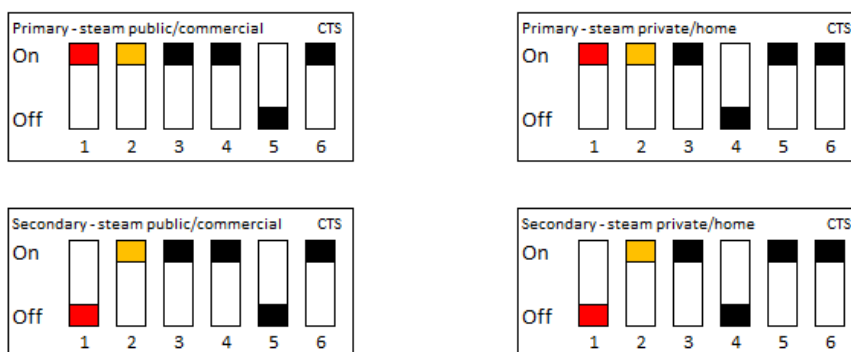

Fig. 17
When more than one generator is connected together, one of them is set up to be the "Primary" (factory setting) and is the one which controls the other generators. The other units are then set up to be "Secondary" in accordance with the DIP schematic diagram at Fig. 17
3. Select a "secondary" steam generator and change the DIP switch settings to "primary" according to the appropriate type. Refer to Fig. 17. Then connect the control panel to the new "primary". A new "initial setup" will be requested, as the generator had not been set up as a "primary" earlier.